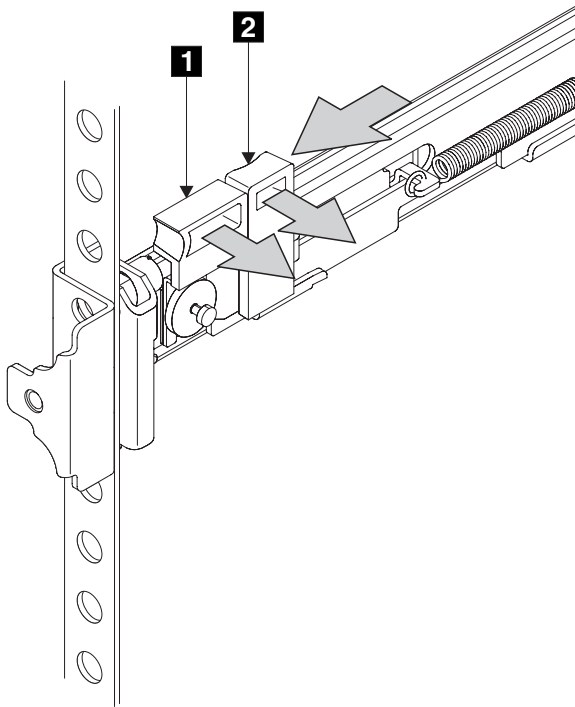

Figure 67. Closing the latch-lock carrier assembly
8. Push the latch lock **2** (Figure 67 on page 284) away from the rail to release the carrier. The latch-lock carrier slides toward the front of the rack and the locating pins project through the holes that are in the front flange and in the front rail bracket.